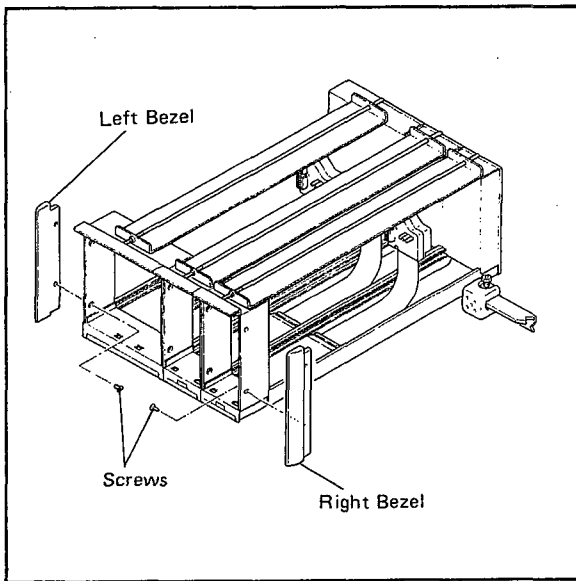

Figure 5-6. Mounting Hardware.
- d. When installing housings in the panel, optional mounting hardware is required for side-by-side instrument installation. See Figure 5-6. Install the mounting hardware in the order described in the following steps.